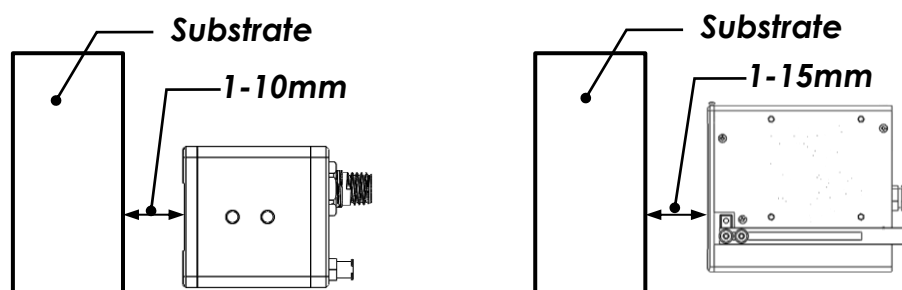

Figure 42
- Adjust clamp slide according to the distance between the printer head and printing surface (see Figure 42 for more information regarding printing position)
The **operating distance** between the exposed print nozzles and the printing substrate is **1-10mm** for Small Character head and **1-15mm** for Large Character Head (see Figure 42). This may vary depending on the printing speed and operating environment conditions.